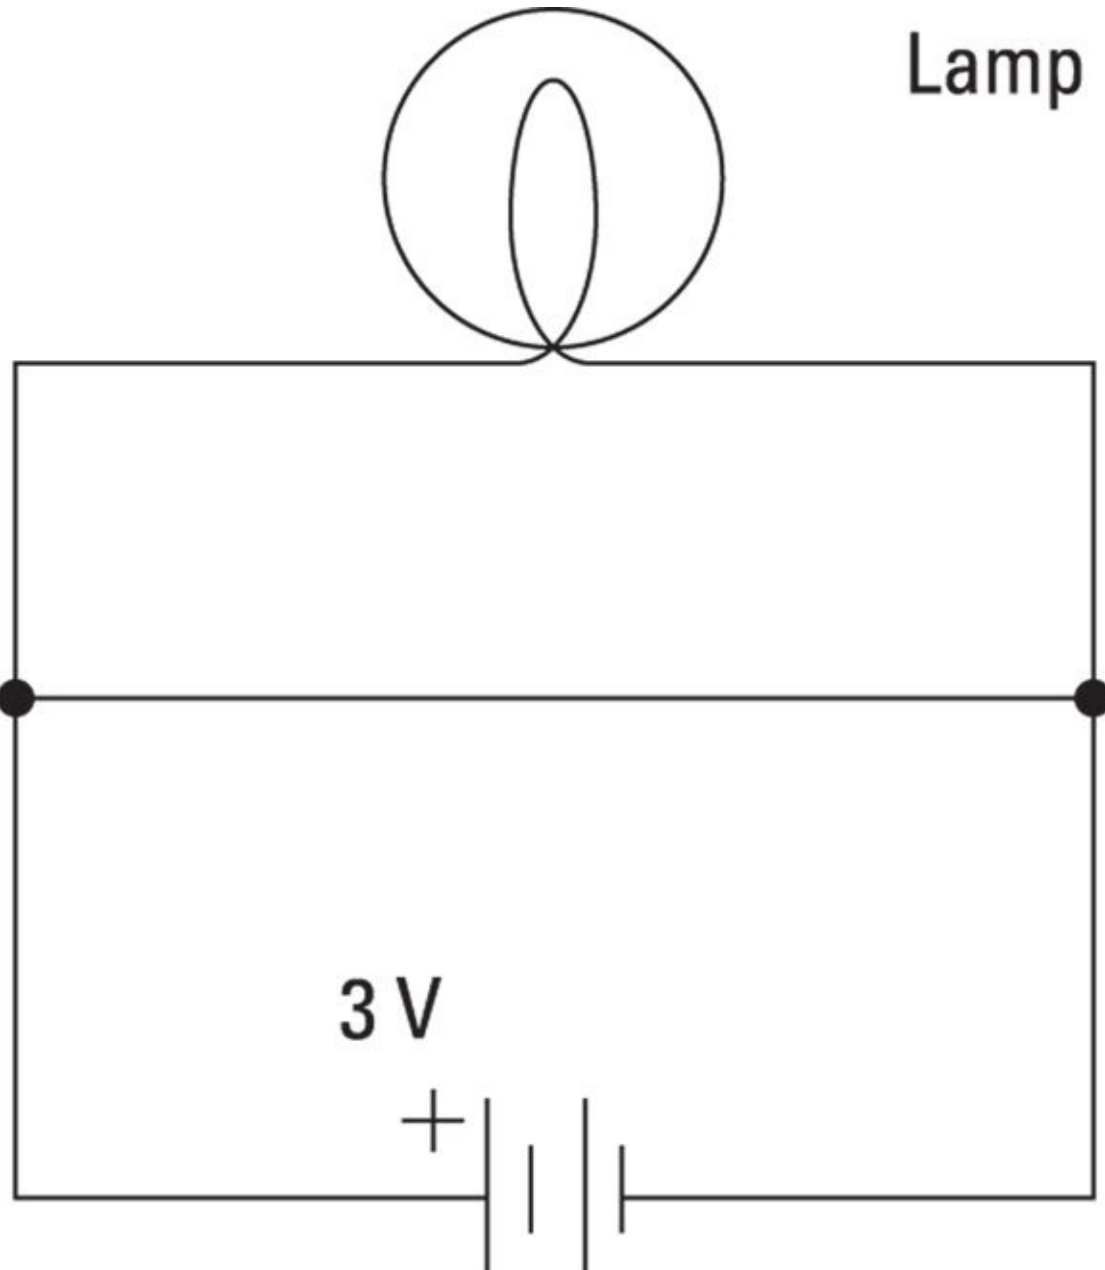

FIGURE 1-2: A short circuit.
- *Short circuit* refers to a circuit that does not have a load. For example, Figure 1-2 shows a short circuit; the lamp is connected to the circuit but a direct connection is present between the battery's negative terminal and its positive terminal, too.
The short circuit shown in Figure 1-2 illustrates an important point about electrical circuits: It is possible — common, even — for a circuit to have multiple pathways for current to flow. In Figure 1-2, the current can flow through the lamp as well as through the path that connects the two battery terminals directly.
Current flows everywhere it can. If your circuit has two pathways through which current can flow, the current doesn't choose one over the other; it chooses both. However, not all paths are equal, so current doesn't flow equally through all paths. In the circuit shown in Figure 1-2, current will flow much more easily through the short circuit than it will through the lamp. Thus, the lamp will not glow because nearly all the current will bypass the lamp in favor of the easier route through the short circuit. Although a small amount of current will flow through the lamp, the current flowing through the lamp will not be sufficient to cause the lamp to visibly glow.